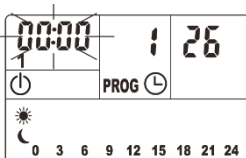

Fig.4
5. Press  button, the 24-hour clock display will now be flashing in the **00.00** position. (Fig.4) You can now use the up and down arrows to cycle through the time on the hour bar.